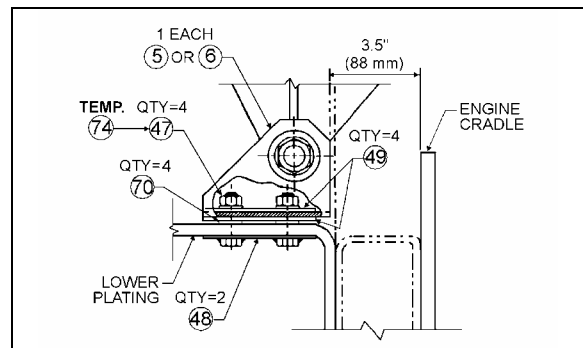

FIGURE 19: ANGLE SUPPORT
1. Install both attachment assembly plates (P/N 051779) (48, Fig. 19) through lower plating and secure with four spring nuts (P/N 500666), (70, Fig. 19). Then install one spacer (P/N 050705), (49, Fig. 19) on each spring nut at both anchoring locations (Fig. 19).
2. Center seat assembly in the fan shroud using the horizontal displacement of the fan driving mechanism support. Center with the slots in the floor at anchoring angle support (on some vehicles only). Vertical displacement of the fan clutch is made possible by slots at the base of the fan clutch (on some vehicles only) or by shimming with additional spacers at anchoring locations. Temporarily secure assembly with two nuts (P/N 500709), (74, Fig. 19) at both anchoring locations.
- Check alignments again (steps 2, 3 & 4) then replace temporary anchoring nuts (P/N 500709) (74, Fig. 19) with four nuts (P/N 500714) (47, Fig. 19) and tighten using a wrench.